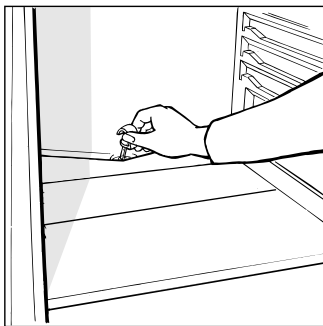

Fig. 4
This appliance defrosts automatically and the defrost water is channelled to the back toward the drain installed for this purpose (fig. 4). Here, the heat produced by the compressor will make it evaporate. The only thing you must do is to periodically check and clean the drain hole, which is located behind the fruit and vegetable crisper, so that the water drains properly.
- The defrost drain is clear from any blockage (see fig.4).